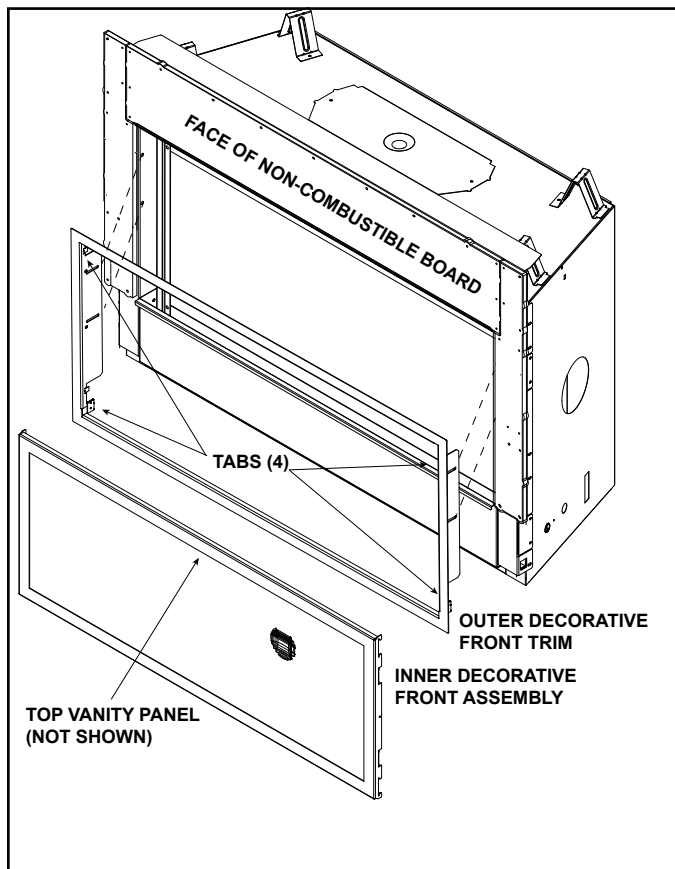
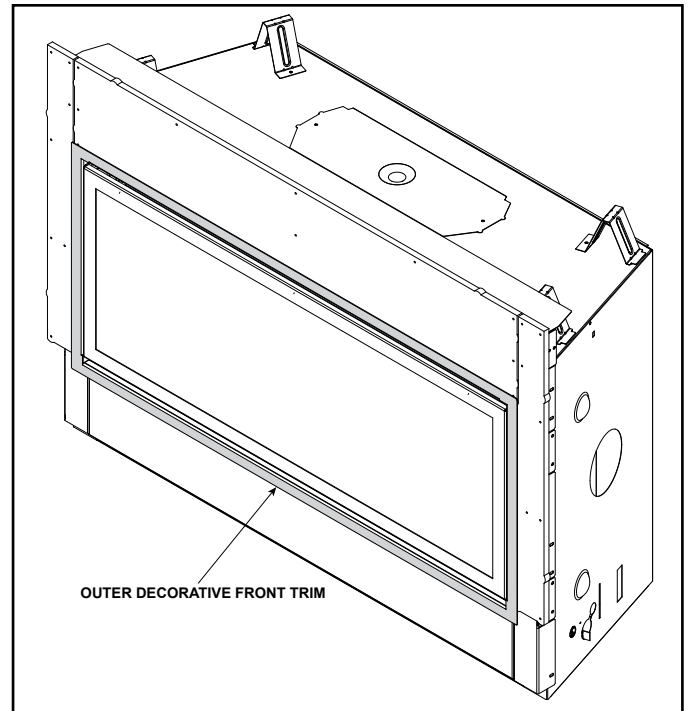

Figure 6. Outer Decorative front Trim and Inner Decorative Front Installation
Figure 7. CFTF Decorative Front Installed With Outer Decorative Front Trim
2. Install the outer decorative front trim into appliance opening and secure outer trim to appliance with four hex screws. Ensure the outer trim contacts the face of the non-combustible board or finish material, if applicable. See Figure 6.
3. Install the inner decorative front assembly so that the top vanity is positioned upward. The inner decorative front assembly will hang from the four tabs located on the left/right sides of the outer decorative front trim. See Figure 6 and Figure 7.